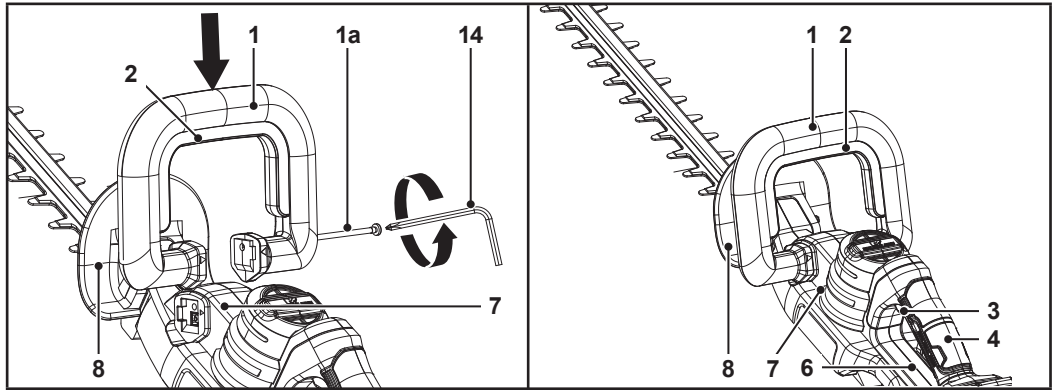

Fig. 1
1. Use the hex key/crosshead screwdriver (14) to remove the long bolt (1a) from the front handle (1) (Fig. 1).
2. Position the front handle (1) so that the arrows at the ends point to the intakes of the housing (7) (Fig. 1).
3. Slide the front handle (1) into the intakes of the housing (7) until it locks in space (Fig. 1).
4. Fix the front handle (1) with the long bolt (1a) and the hex key/crosshead screwdriver (14) (Fig. 1).
Front safety guard (8), rear guard (6): These guards protect your hands against flying, bouncing and sharp parts of the trimmed branches (Fig. 1).